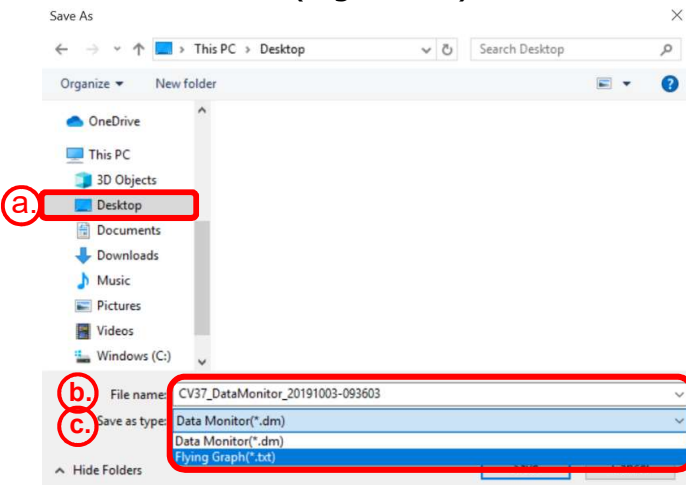

Figure 11
14. Save the data as a "Flying Graph(*.txt)". (Figure 11)